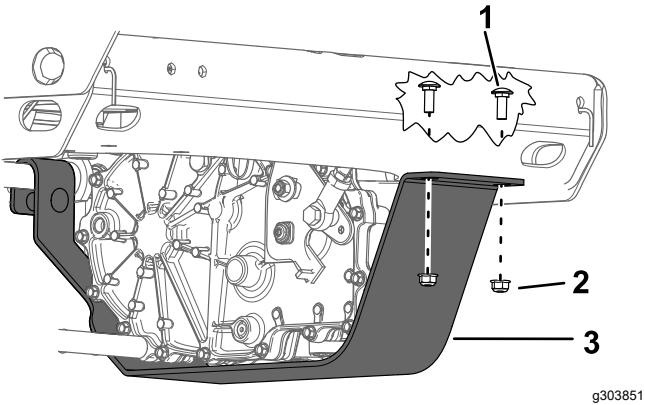

Figure 63
- Remove the 2 bolts and nuts from the transaxle guards (Figure 63).
8. Pivot the transaxle guards up and secure both with 2 bolts and 2 nuts (Figure 63).